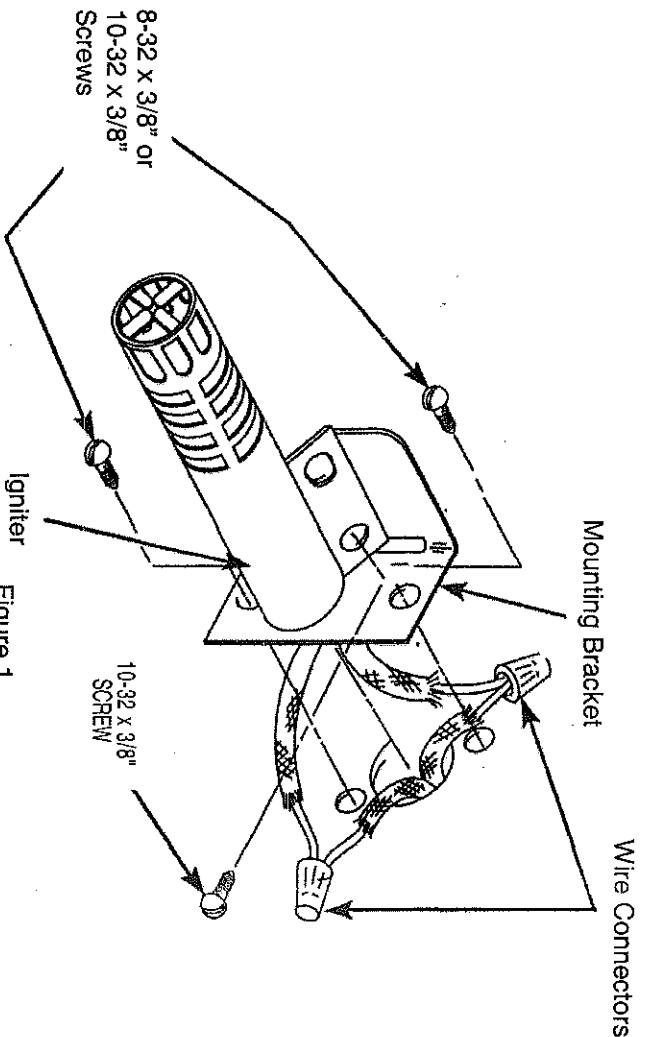

Figure 1
2. Remove the two (2) mounting screws that attach the igniter bracket to the back of the oven cavity. See *Figure 1*.
3. Gently pull the igniter toward you until the wire connectors have been pulled through the opening in the back of the oven cavity. Unscrew the wire connectors, disconnect the faulty igniter, and discard the igniter and the wire connectors. See *Figure 1*.
4. You are responsible for determining if the new igniter can be installed with the existing mounting bracket or if another bracket is necessary. If you need to use the mounting bracket included in this kit to install the igniter, use the 8-18 screw to attach the igniter to the bracket. See figure 1.
5. Reattach the wires the same as the old igniter, using the ceramic wire connectors enclosed in kit. See *Figure 1*.
6. Remount new igniter and bracket assembly to the rear of the oven cavity, using the two (2) 8-32 x 3/8" mounting screws enclosed in the kit. See *Figure 1*.